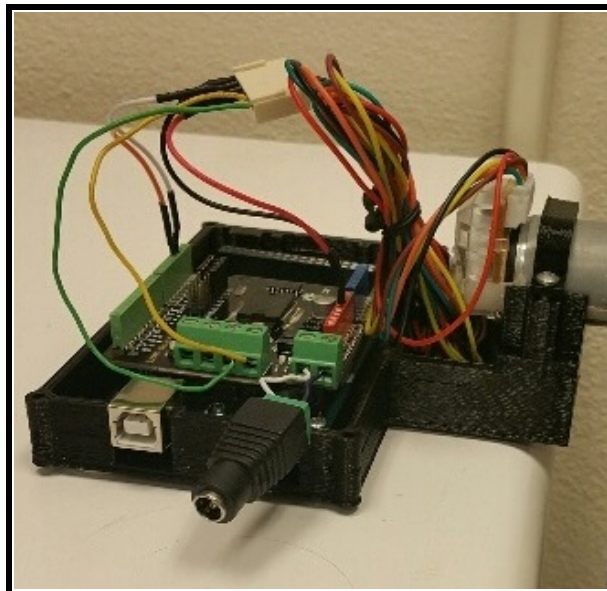

Figure 2.3: Base Assembly
9. The base hardware for this experiment is shown in Figure 2.3. If you do not have the hardware set up this way, follow the hardware setup steps provided in the *Sampling and Data Acquisition* experiment.